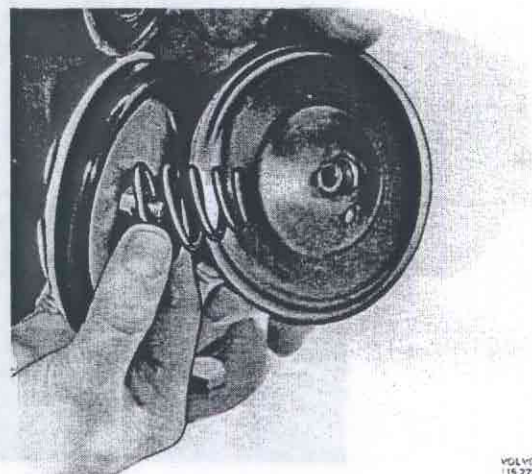

Fig. 43-158. Removing cover and spring
2. Remove the bolts securing the cover to the control cylinder. Remove the cover and the thrust spring, Fig. 43-158.